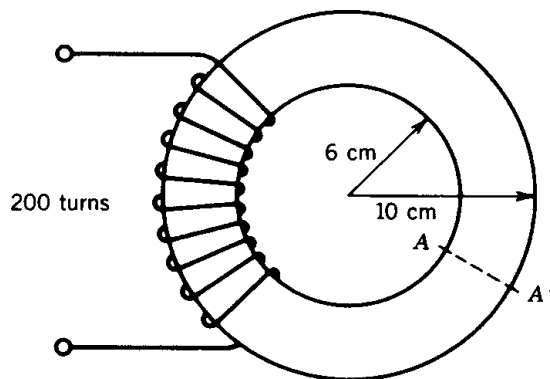

FIGURE P1.9
- 1.9 The toroidal (circular cross section) core shown in Fig. P1.9 is made from cast steel.
- 1.10 In the toroidal core coil system of Fig. P1.9 the coil current is 2.0 A and the relative permeability of the core is 2000. The core has a square cross section.